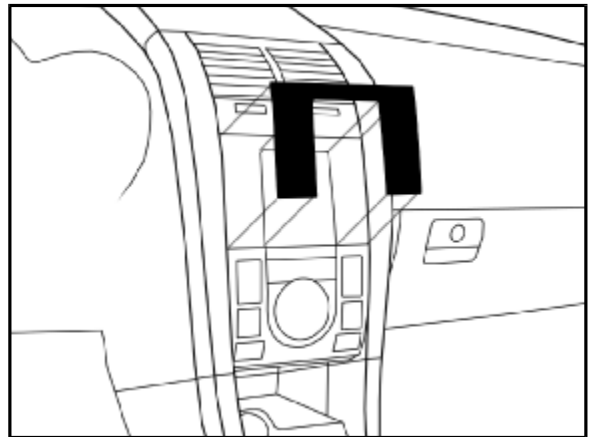

Fig. F1
- ⚠ A. Align part uniformly to edge of factory components. Edge of appliqué should be flush to edge of factory component, ±1.0mm. (Fig. F1).